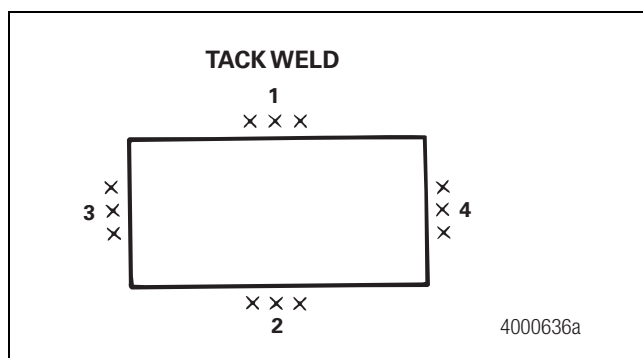

Figure 3.15
2. Tack weld in four places as shown. Figure 3.15.